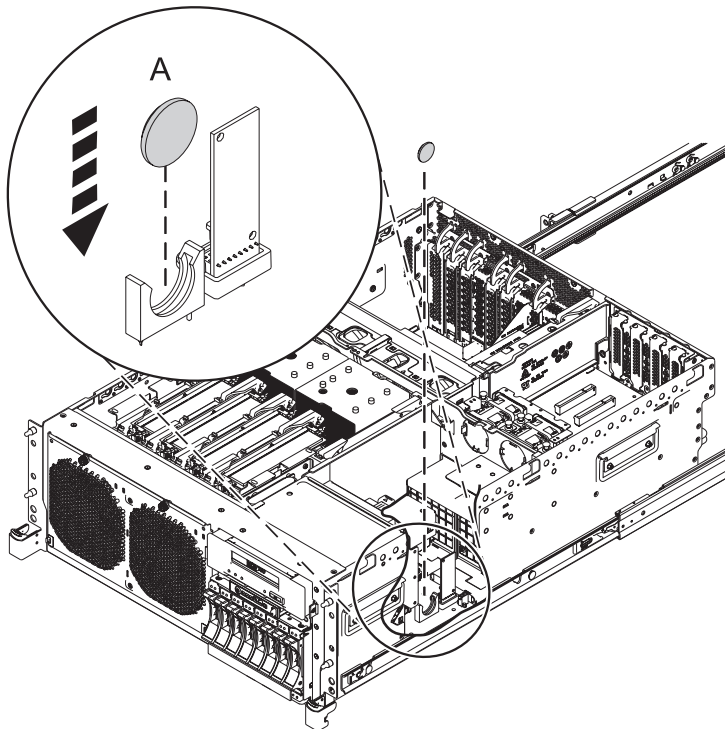

Figure 3. Installing the time-of-day battery
1. Insert the time-of-day battery (A) in the slot on the system backplane, being sure to insert the battery with the polarity (+/-) the same as the battery that was removed. See Figure 3.